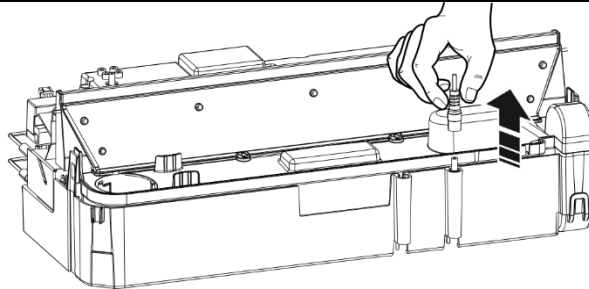
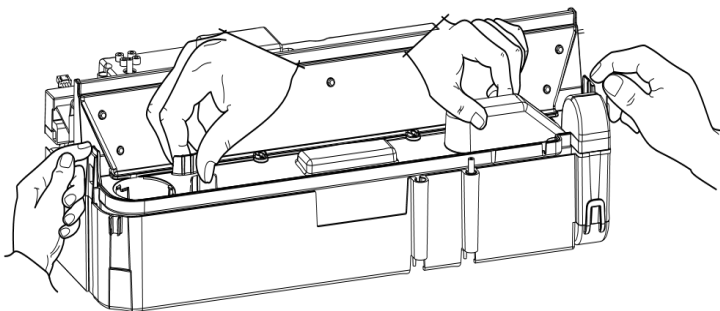

Fig 13
Fig 14
5. There are two orange clips holding down the nozzle on the sump; one on the left and one on the right hand side of the nozzle. On the left side, press in the clip with one hand and with the other lift the nozzle out of the clip. Repeat this for the right side (Fig 13). The nozzle can now be lifted up and placed aside (Fig 14).